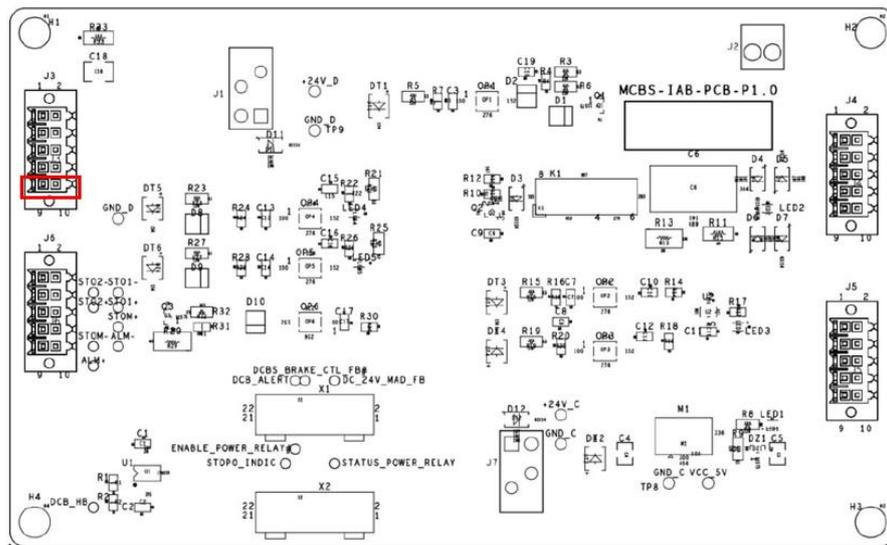

Figure 5-5 IAB interface circuit board
Step2.Insert the removed loose brake wire into pins 9 and 10 of the J3 interface of the IAB interface circuit board, as shown in Figure 5-5.